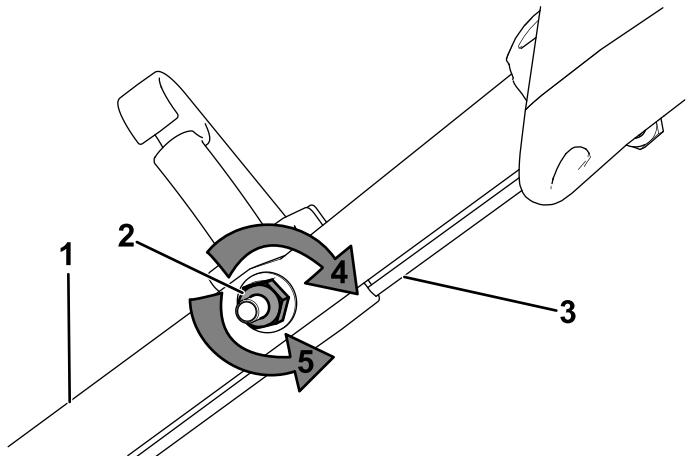

Figure 30
1. Turn the adjustment nut counterclockwise to loosen the cable adjustment (Figure 30).
2. Adjust the tension on the cable (Figure 30) by pulling it back or pushing it forward and holding that position.